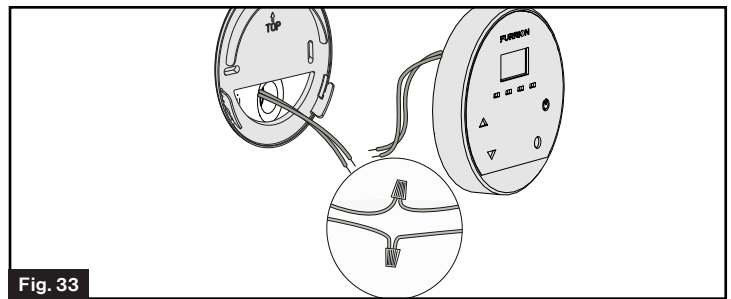

Fig. 33
2. Connect the two blue wires of the wall controller to the appliance directly or with the wall extension wires referenced in Fig 12. (Wall controller wires are blue, and polarity does not matter.) (Fig. 33)